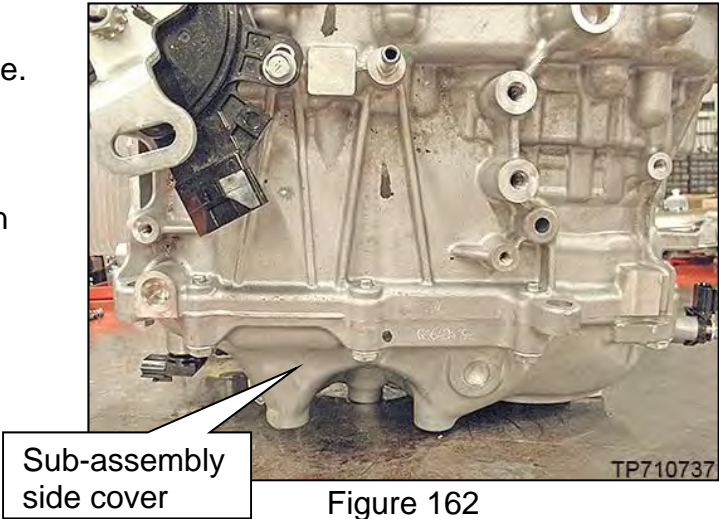

Figure 162
- Leave the sub-assembly side cover facing down as shown in Figure 162.